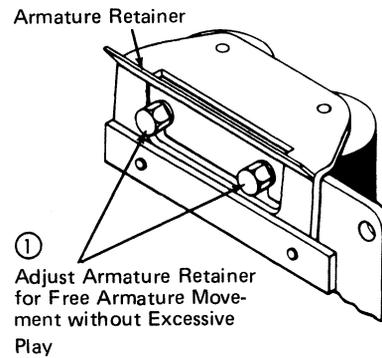

Figure 2-66. Multi-Contact Relay Armature and Core
1. The armature should be free at its pivot point without having excessive play. Adjust the armature retainer to obtain this condition (Figure 2-66).